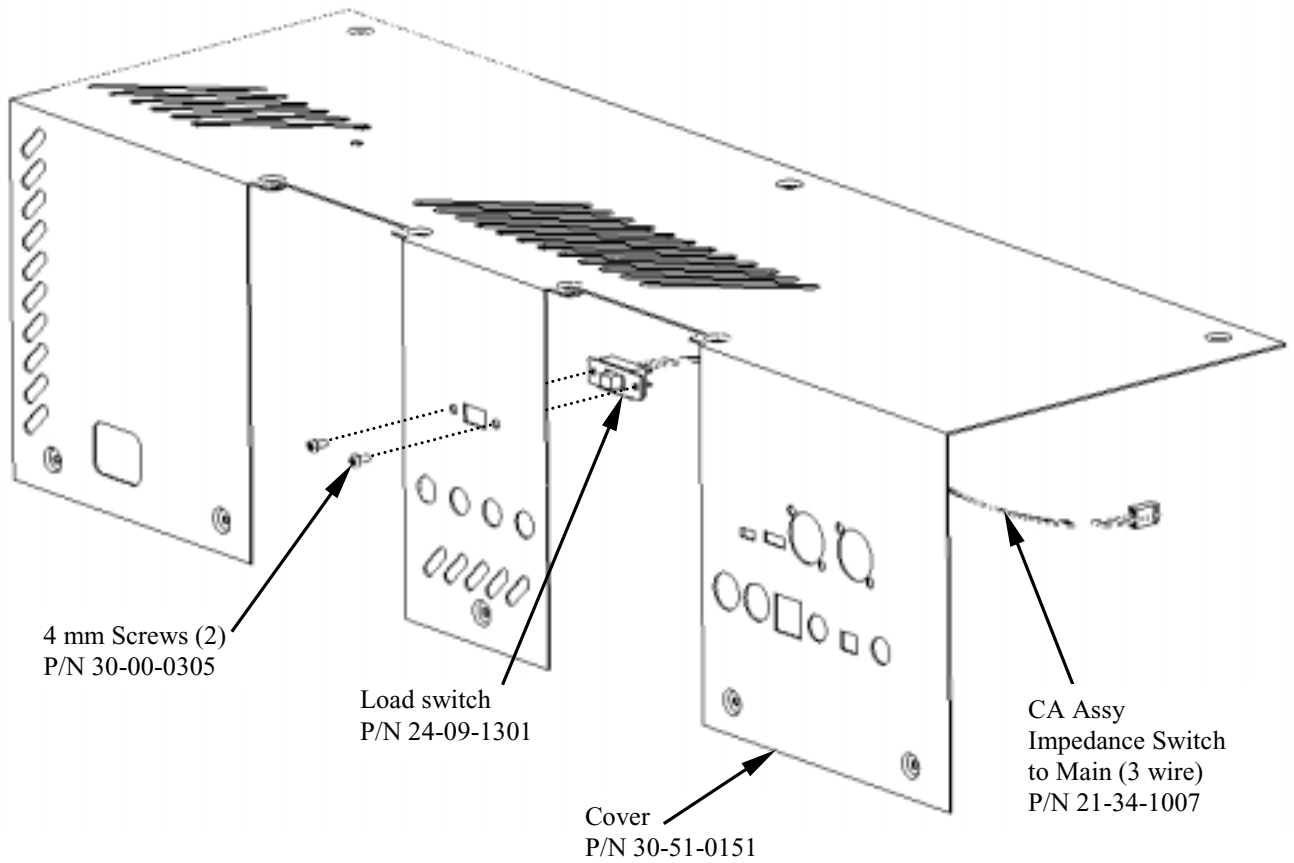

Figure 18
- a. Position Load Switch in Cover as shown in figures 18 and 19.
- b. Install mounting screws. See figure 18